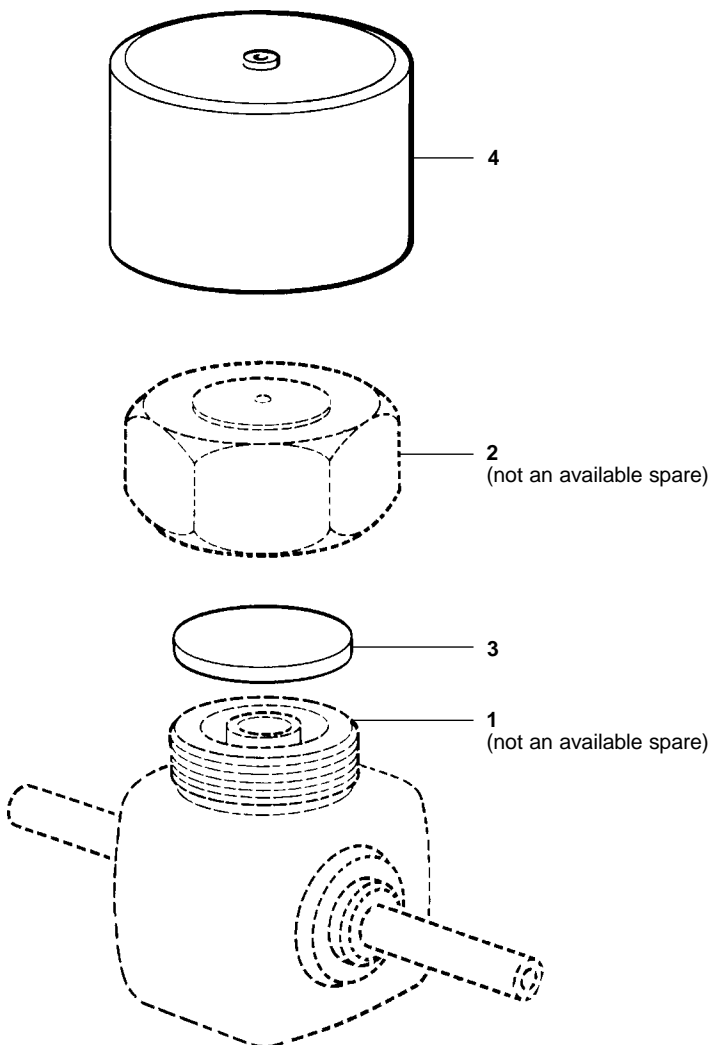

Fig. 4
- Note; refer to Figure 4, page 7, for part number location.
- Remove the insulating cover (4) if fitted.
- Unscrew the cap (2) using a spanner. **Do not use** Stillsons or a wrench of similar type which may cause distortion of the cap.
- If the disc (3) and body seating surfaces (1) are only slightly worn they can be refaced by lapping individually on a flat surface such as the surface plate. A figure of eight motion and a little grinding compound such as Carborundum Co's Compound I.F. gives the best results. If the wear is too great to be rectified by simple lapping, the seating faces on the body must be ground flat and then lapped and the disc replaced with a new one. The total amount of metal removed in this way should not exceed 0.25 mm (0.01").
- When reassembling the disc (3) is normally placed in position with the grooved side in contact with the body seating face.
- Screw on the cap (2); no gasket is required but a fine smear of Molybdenum Disulphide grease should be applied to the threads. Tighten the cap (2) to the recommended tightening torque (see Table 1).